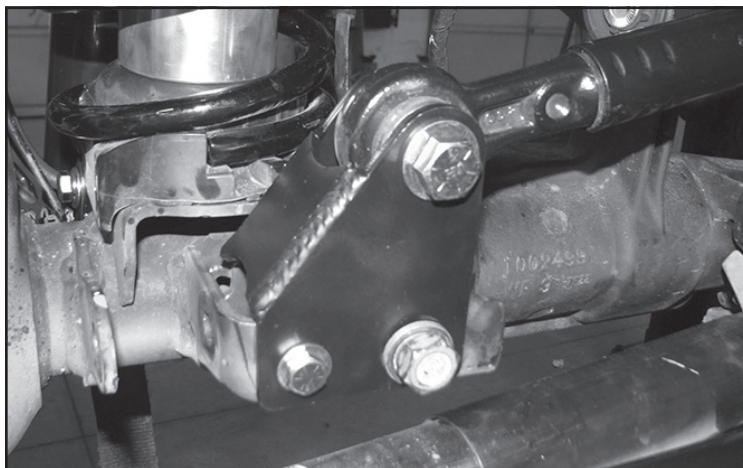

FIGURE 18 - STEP 19
19. Re-install the track bar using the supplied 9/16" X 3" bolt, nut and washers. Torque to 153 ft-lbs. **SEE FIGURE 18**